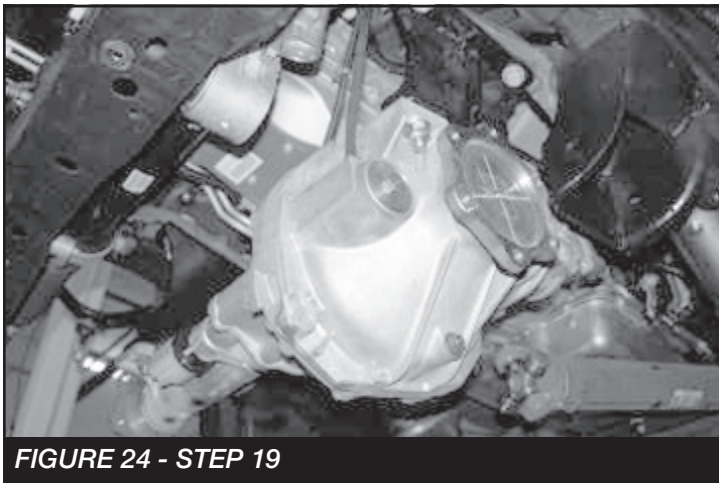

FIGURE 24 - STEP 19
19. Locate the supplied  $\frac{1}{2}$ " x  $1\frac{3}{4}$ " and  $\frac{9}{16}$ " x  $1\frac{3}{4}$ " hardware and the front diff. Install the diff onto the new drop brackets using the  $\frac{1}{2}$ " hardware on the driver's side and the  $\frac{9}{16}$ " on the passenger side. Torque the  $\frac{1}{2}$ " hardware to 75 ft-lbs. and the  $\frac{9}{16}$ " to 95 ft-lbs. Re-connect the electrical and vacuum connections back onto the diff. **(CHECK THE CLEARANCE OF THE DIFF TO THE FRAME IN SANDED AND CUT SPOTS ON THE DIFF. FOR ADAQUATE CLEARANCE TO THE FRAME AND CROSSMEMBER). SEE FIGURE 24**